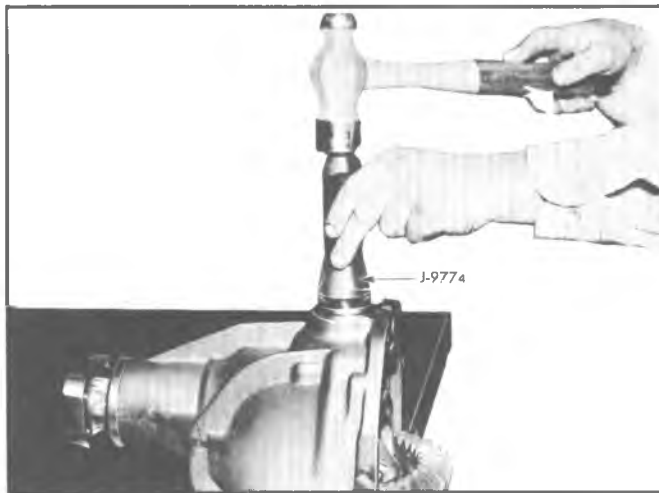

Fig. 7C--Installing Side Gear Yoke Seal
2. Place a new seal on Installer J-9774 and install into seal bore outboard of bearing as in figure 7C.